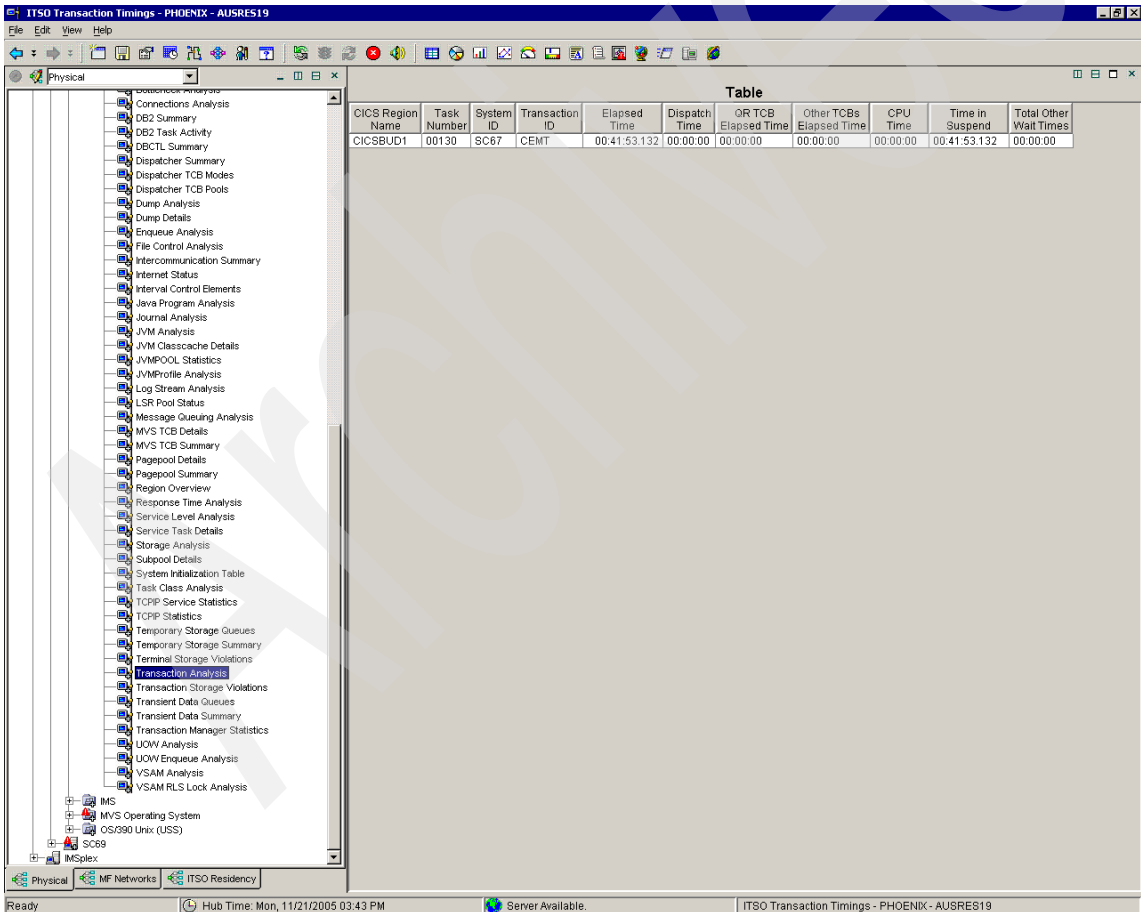

Figure 6-16 Advance Link target workspace with one row of data
6. Test the link and validate the target workspace contents. Figure 6-16 shows additional details for a single row of information, which is all that would satisfy the filtering criteria passed in the link symbol.